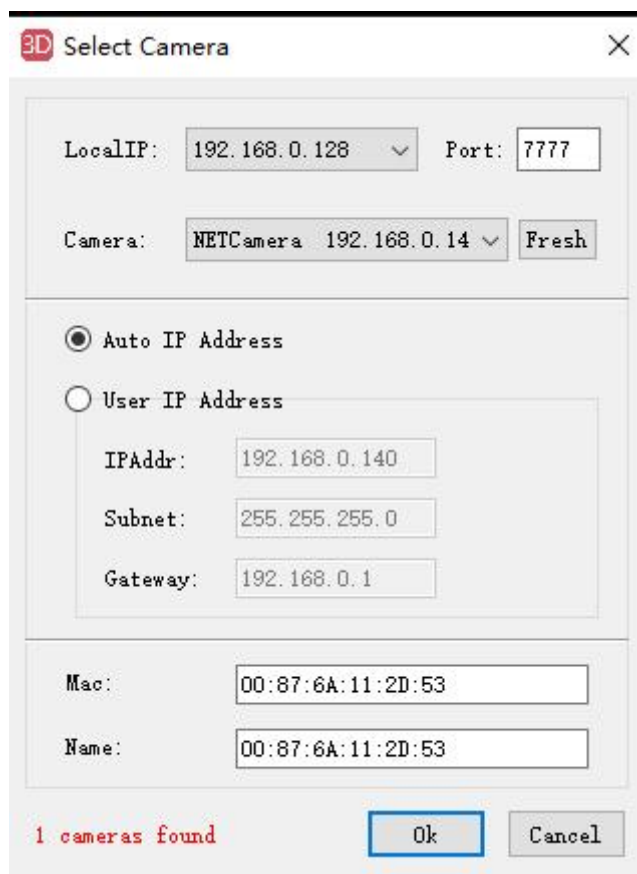

Fig. 1.31 Camera selection
① Camera selection: Select the camera connected to the PC, see Figure 1.31 for details
② Network segment setting: select the network segment of the PC